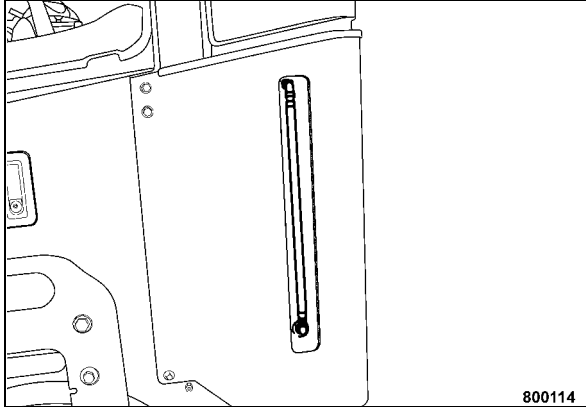

Fig. 63
- Check the water level (Fig. 63).